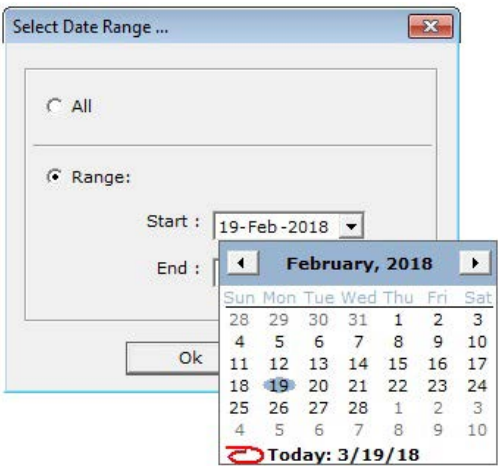

Figure 4-25. Event Log Date Range
1. Select **Tools>Event Log>Receive** to copy the entire contents of the system event log to a text file or a range of system events within the log based on occurrence dates. In response, a the prompt shown in Figure 4-25 is displayed.